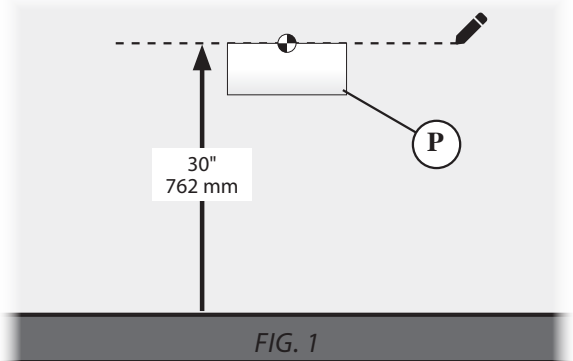

FIG. 1
Identify where you will install the Bagger in your shop. Mark a straight level line 30" from the ground. Align the top of the Template (P) with the marked line [FIG. 1] and temporarily secure the Template to the wall with a tack or non-marking tape. If mounting to a stud reinforced wall center the template on a stud to utilize the reinforcing slots.